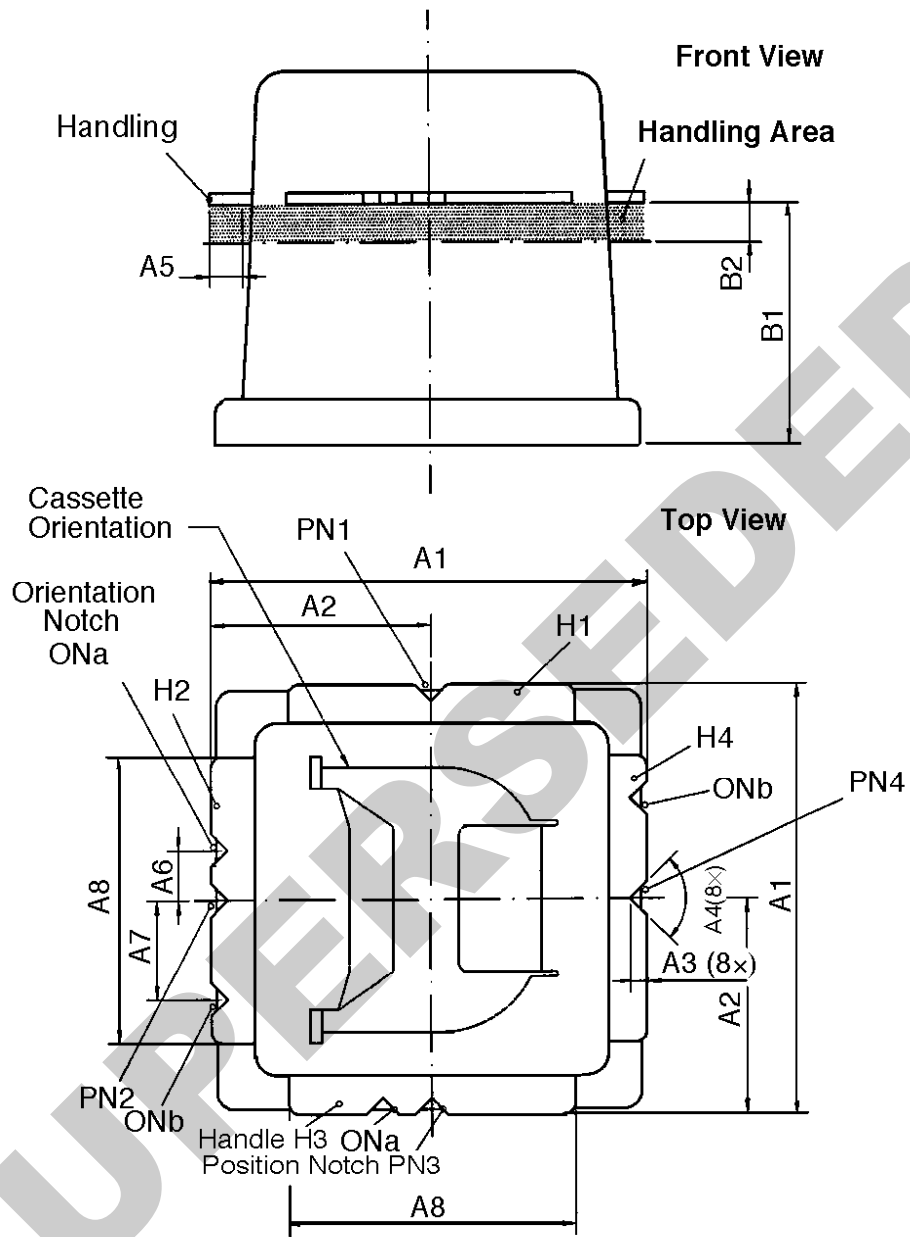

Figure 1
5.8 *position notch* — Notch located at the center lines of the pod handles to allow positioning. See Figure 1 (PN1 to PN4).
5.9 *orientation notch* — Notch located at the pod handles to allow sensing the orientation of the pod. See Figure 1.
6.1 Handling Dimensions: the handling dimensions for 150 mm and 200 mm pods shall be per Table 1 (see Figure 1 for dimensional locations).